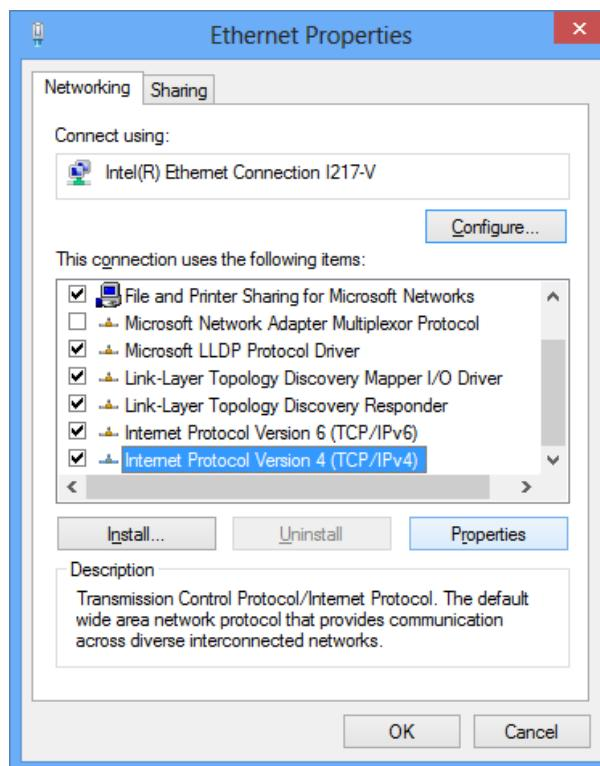

Fig. 10.4: Property window of the "Internet Protocol Version (TCP/IPv4)".
d. Click on "Internet Protocol Version (TCP/IPv4)" and select "Properties", as in Fig. 10.4.